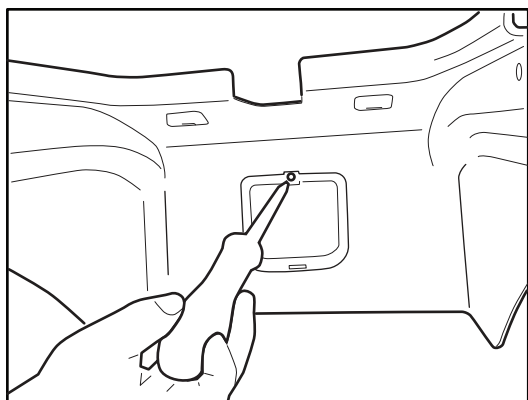

Figure 3. Removing rear access panel screw. (Screw located inside of the dome casting cover).
2. **Remove rear access panel from the dome casting cover.** *Please refer to figure 3 & 4.* Using a Phillips screwdriver, remove small screw located inside of the dome casting cover. Remove rear mount access panel cover. Access panel cover is not needed again unless Vac Pac is removed at a future time.